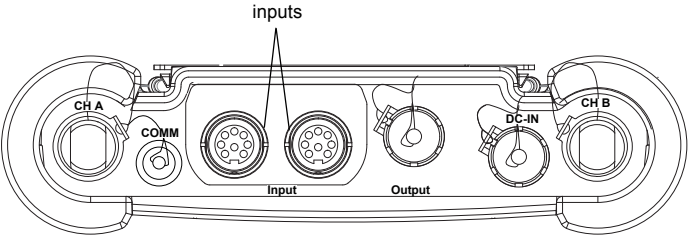
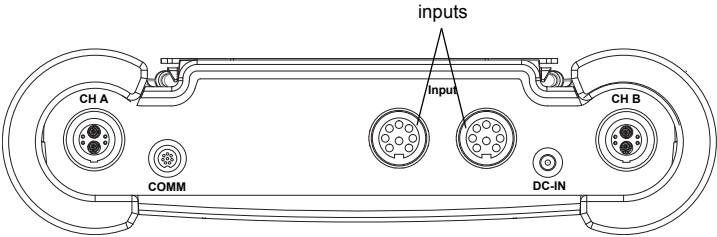

Fig. 7.16: Connections of the transmitter FLUXUS F608\*\*-A2
Fig. 7.17: Connections of the transmitter FLUXUS F608\*\*-F2
- Connect the power supply unit to the socket on the upper side of the transmitter (see Fig. 7.16).
Temperature probes Pt100/Pt1000 (4-wire) can be connected to the inputs of the transmitter (optional) (see Fig. 7.16 or Fig. 7.17).